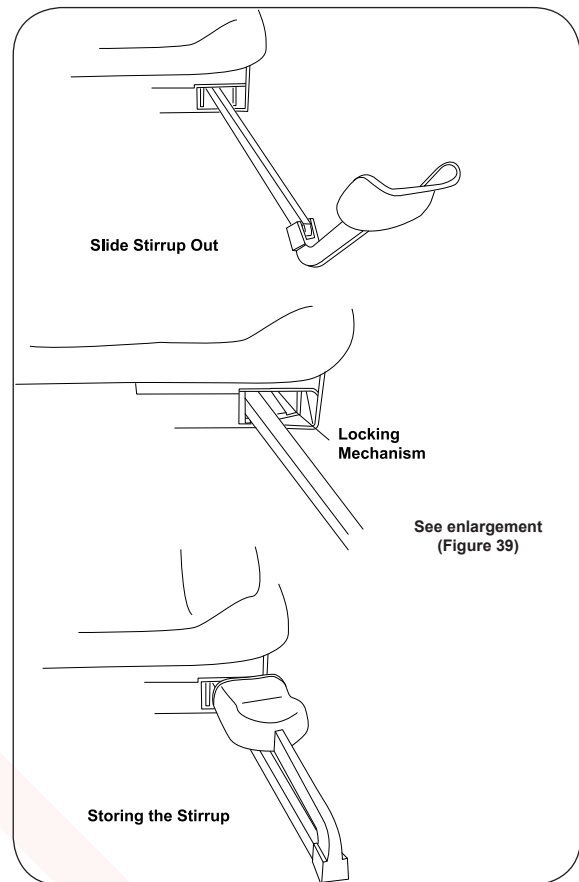

Figure 38. Stirrups
Operating the Stirrups (Figure 38)
2. When the desired position is achieved, lower the stirrup to engage the lateral locking mechanism (Figures 38 and 39).